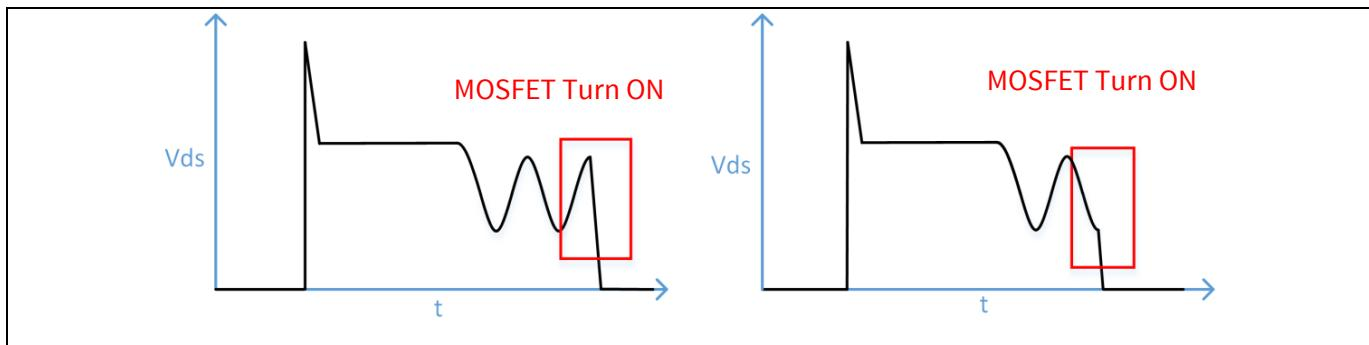
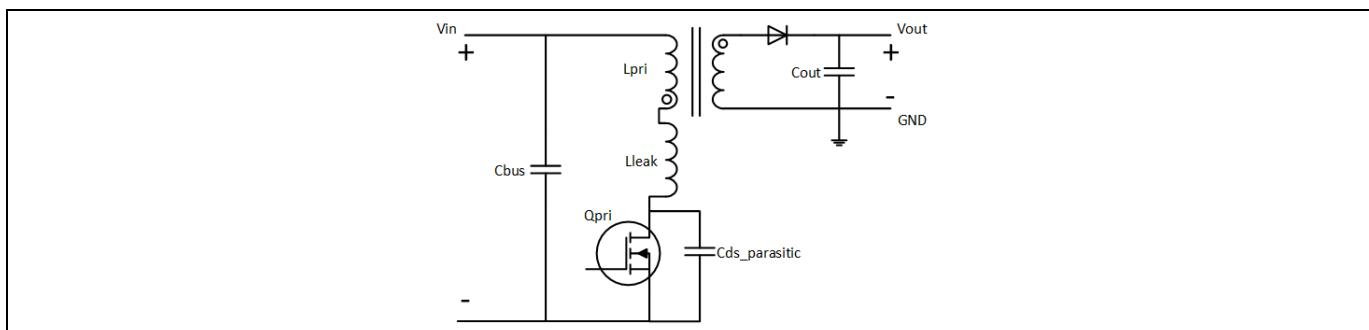

Figure 2 Fixed frequency flyback primary MOSFET drain source waveform (left) vs. a QR flyback primary MOSFET drain source waveform (right).
Figure 3 Simplified flyback schematic
The quasi-resonant (QR) flyback offers improved efficiency and electro-magnetic interference (EMI) performance over the traditional fixed frequency flyback converter by reducing switching losses. This is accomplished by controlling the turn-on time of the primary MOSFET (Q_{pri} in Figure 3). In a flyback operating in discontinuous conduction mode (DCM), the energy is first stored in the primary side when the primary MOSFET (Q_{pri}) is turned on allowing the primary current to ramp up. The primary MOSFET (Q_{pri}) turns-off and the energy stored in the transformer transfers into the secondary side capacitor. The energy that is left in the primary inductance (L_{pri}) after transferring the energy to the secondary then resonates with the combined output capacitance of the MOSFET($C_{DS_parasitic}$) consisting of the MOSFET output capacitance (C_{OSS}), stray drain source capacitance from the transformer and layout, and any additional added external drain source capacitance on this node. In a fixed frequency flyback the switch turn-on happens regardless of the MOSFET drain source voltage (V_{DS}). If switching occurs at a higher V_{DS} (Figure 2), this leads to more switching losses (E_{OSS} losses). The QR flyback waits to turn on Q_{pri} until the V_{DS} voltage reaches the minimum possible voltage shown in Figure 2 and then turns-on the MOSFET.